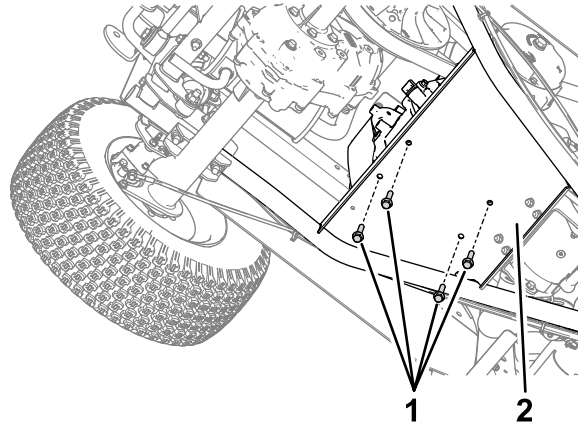

Figure 5
10. Remove the 4 flange-head bolts that secure the engine to the swing-arm platform (Figure 5).